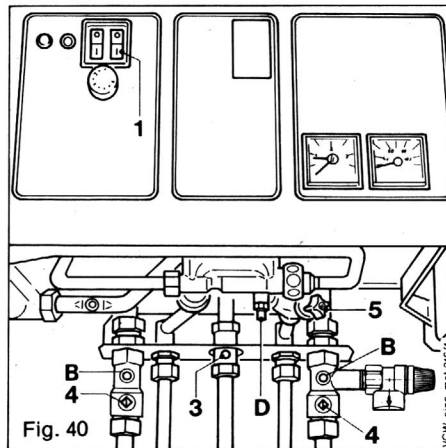

Fig. 40
- Turn off gas service cock (3, fig. 40)
- Turn off boiler C.H. service cocks (4, fig. 40)
- Turn off DHW cold water service cock (5, fig. 40)
Close C.H. service cocks (4, fig. 40)